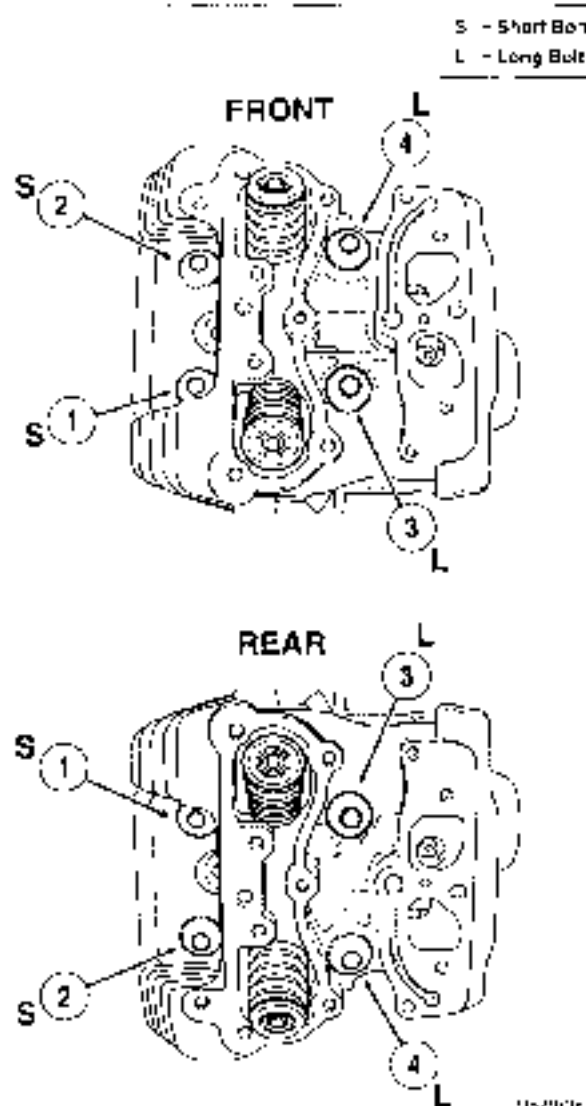

Figure 3-39. Cylinder Head Torque Sequence
4. See Figure 3-39. Loosely install the cylinder head bolts onto the cylinder studs. Place two short bolts on the left side of the engine and two long bolts on the right.
- e. Using the marks as a guide, turn each bolt $1/4$ turn or 90 degrees ± 5 degrees. Be sure to tighten the cylinder head bolts in the sequence shown in Figure 3-39.
Use same sequence as Figure 3-39.